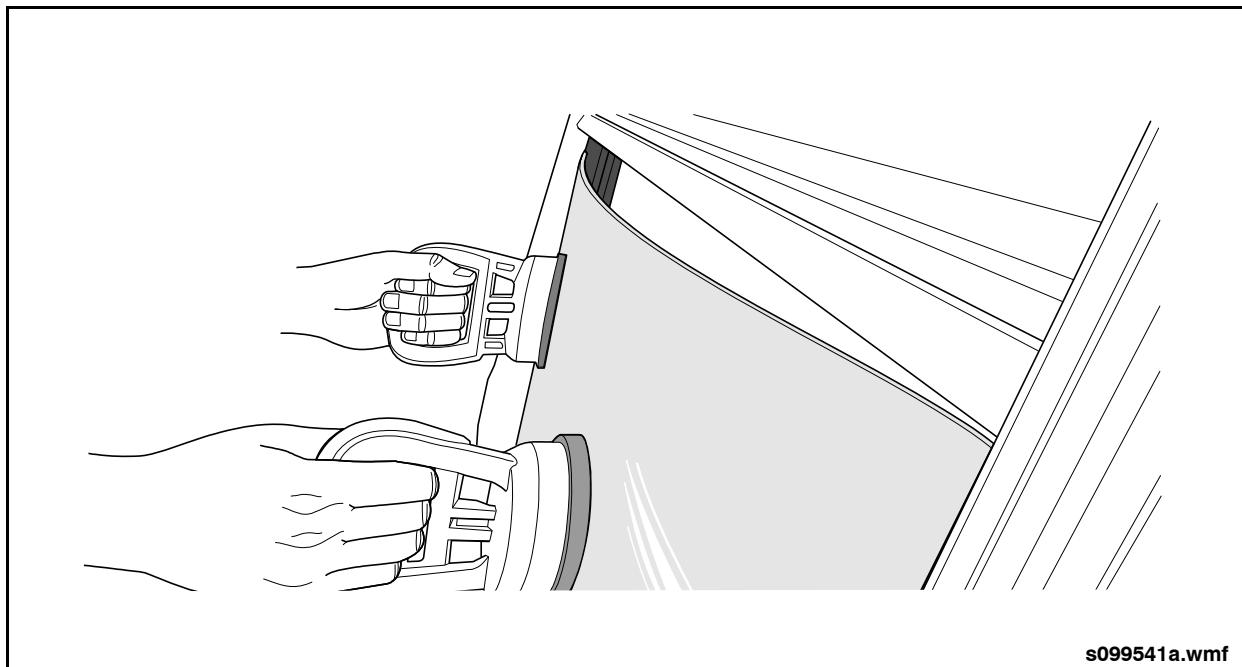

Fig. 14-27: Acrylic Shield Removal
3. Bow the shield enough so that the bottom edge no longer engages with the frame. Keep shield bowed, slide down and pull out of window. See "Fig. 14-27: Acrylic Shield Removal" on page 31.